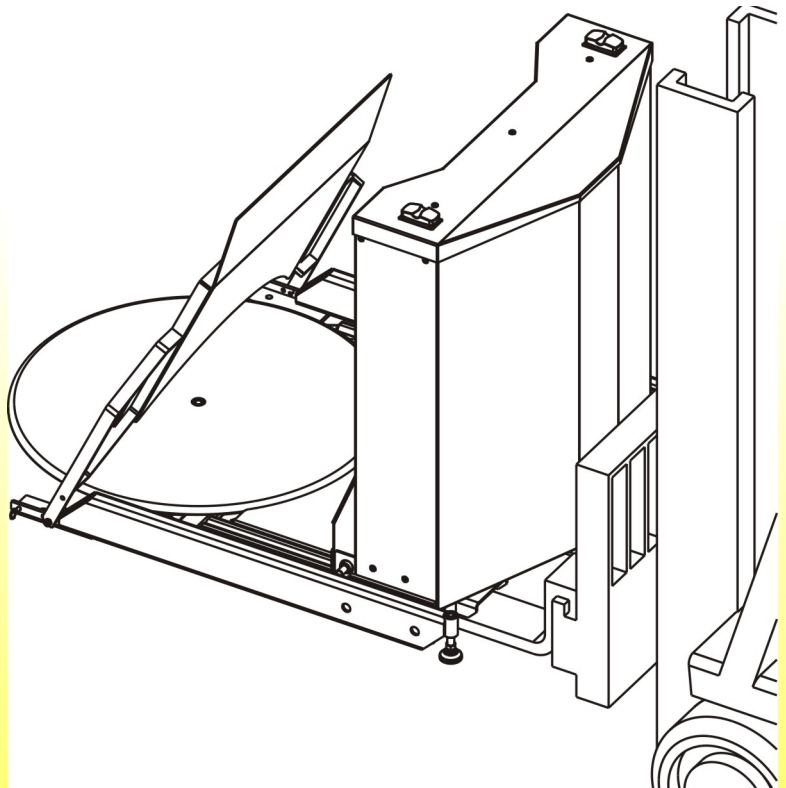

Figure 9 - Handling the EZ Off Lifter
7. Tilt the fork mast to the rear to level the lifter and slowly lift the unit until the base structure is completely clear of the pallet, as detailed in Figure 9. Next, remove the pallet and place it off to the side. Position the EZ Off Lifter in the desired location.
6. Tilt the fork mast to the rear to level the lifter and slowly lift the unit until the base structure is completely clear of the floor, as detailed in Figure 9. Move the EZ Off Lifter to the desired Location.